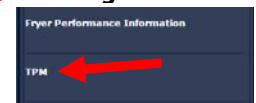

Figure 24
25. Clicking on TPM (Total Polar Materials) displays the amount of total polar materials present in the oil. This is used to identify the quality of the oil to determine disposals per vat (see Figure 24). Click on Choose Dispose Event pull down